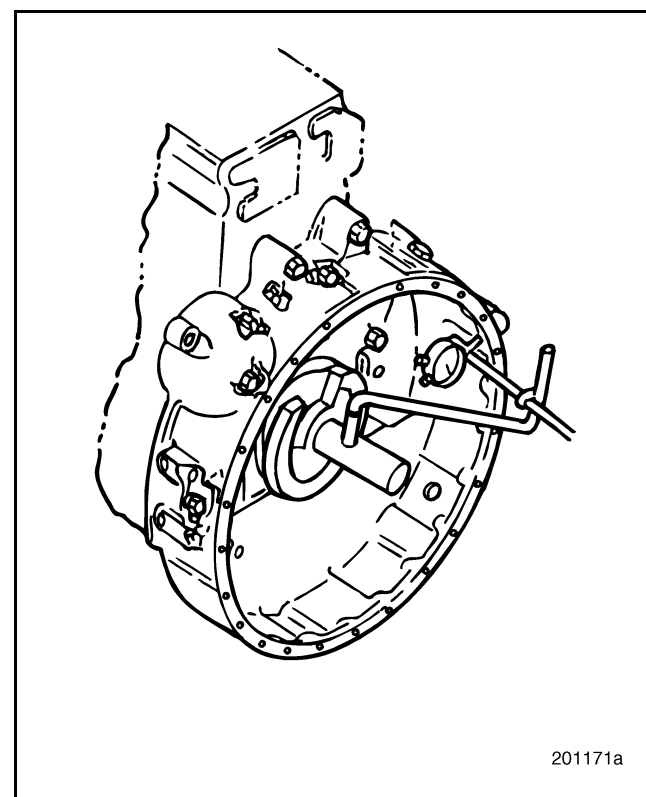

Figure 251 — Flywheel Housing Runout Check with Dial Indicator
- Runout checked with a dial indicator (PT5035 with Z adapter PT5035-1) mounted on the crankshaft rear flange or flywheel as shown in Figure 251 is: 0.020 inch (0.508 mm) TIR maximum. This way, the runout may appear to be excessive due to crankshaft movement within bearings and other variables.